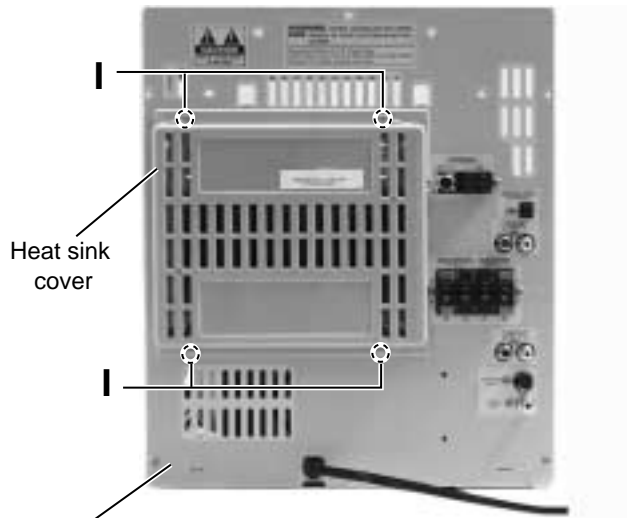

Fig.10
■ Removing the heat sink, amp. board and DVD power board (See Fig.10 to 12)